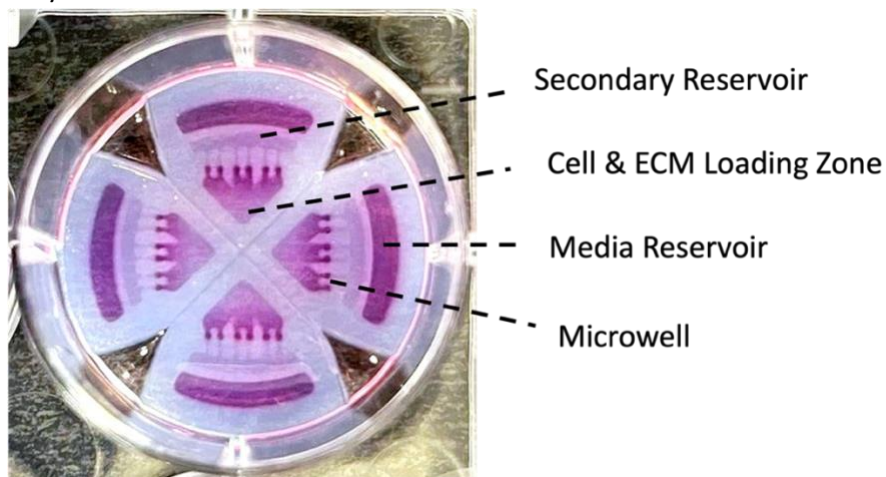

Fig. 1. Labeled Birds-Eye-View of the 3-in-1 Plate
- 1-1- Using an aseptic technique in a laminar flow hood, open the sealed bag and add 25 μL of culture media in the Cell & ECM Loading Zone (Fig. 1) of each compartment of the insert.
- 1-3- After the cells have settled into the microwells, gently rinse any additional cells stuck in the channels of the Cell/ECM Loading Zone by adding 70-100 μL of pre-warmed medium to the Cell/ECM Loading Zone. Then, aspirate that media by placing the pipette tip as close to the microwells as possible. Remove any additional media from the Secondary Reservoir (see Fig. 1). **Repeat the rinsing step if you observe any remaining single cells in the channels of the Cell/ECM Loading Zone.**